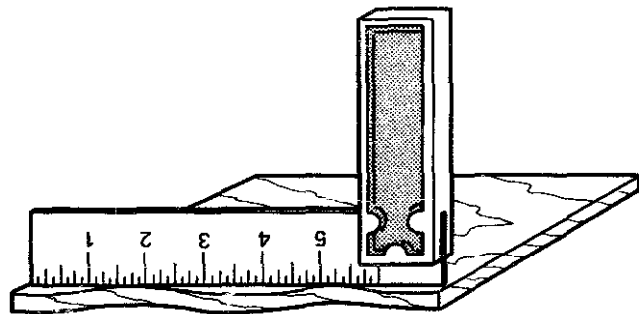

Fig. 8-25 Exaggerated high and low spots.
5. Test the surface for straightness by laying a try or framing square along the surface, figure 8-25. If the edge of the square touches the wood surface at all points when it is placed in several positions, the surface is straight.